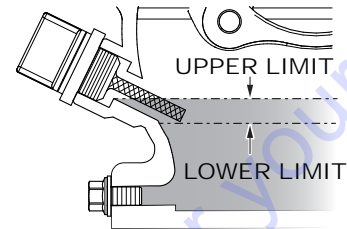

Figure 11. Engine Oil Dipstick (Oil Level)
4. If the oil level is low (Figure 11), fill to the edge of the oil filler hole with the recommended oil type (Table 6). Maximum oil capacity is 2.33 pints (1.09 liters).